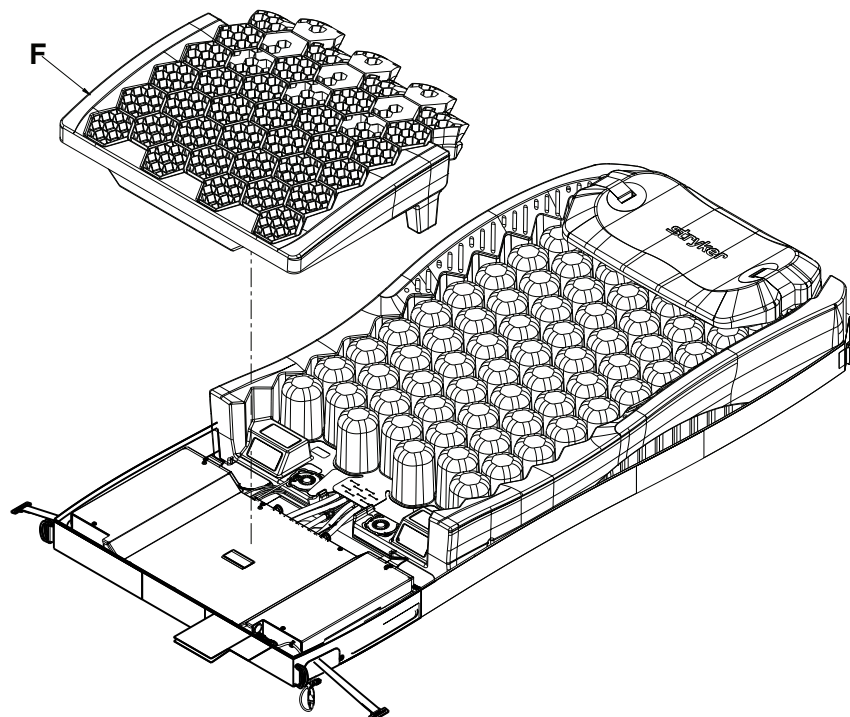

Figure 9 – Gel crib
11. Lift up on the foot section gel (F) to remove the gel crib from the pod assembly (Figure 9). Save the gel crib.